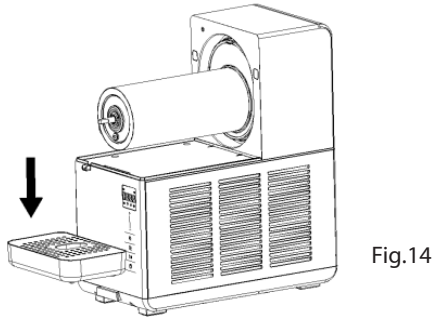

Fig.14
2. Insert the drain tray downwards into the drain tray holder (as shown in Figure 14).